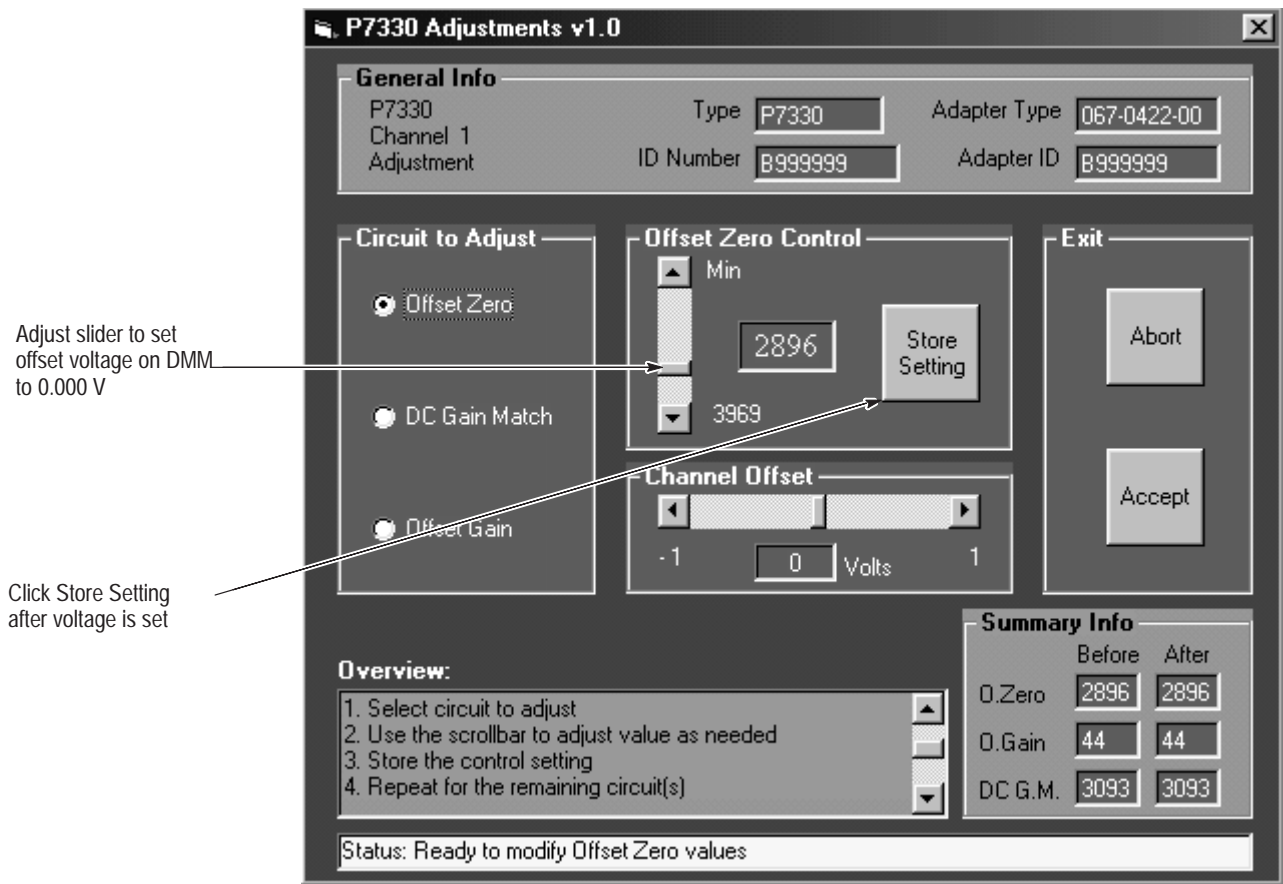

Figure 13: Offset Zero Control in the P7330 Adjustments window
3. The P7330 Probe Adjustments Dialog Box appears. See Figure 13 on page 20.
3. Click Offset Zero in the application window. See Figure 13 on page 20.